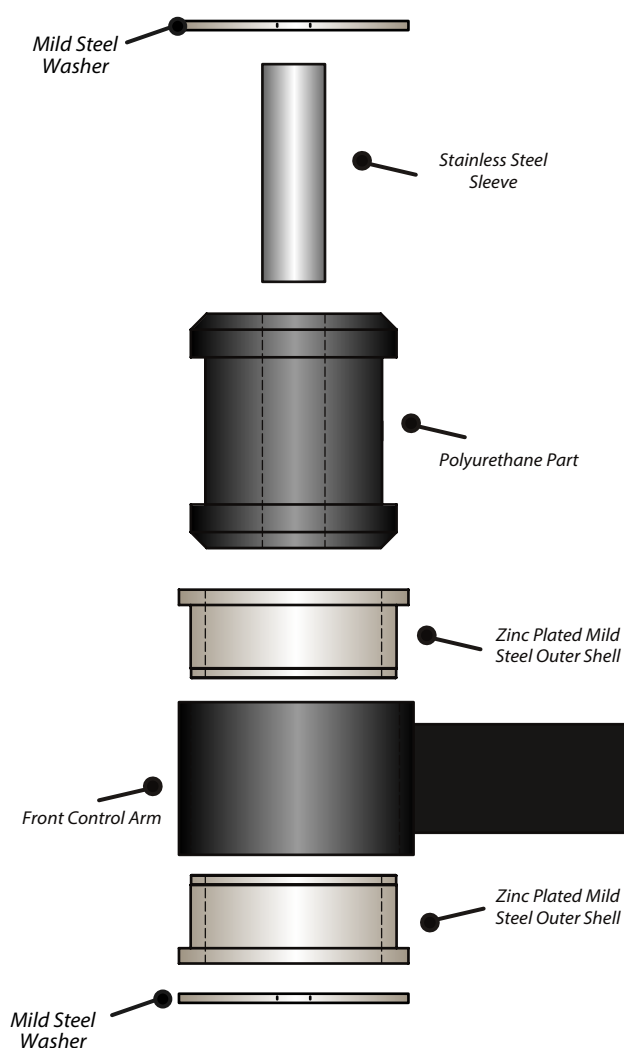

Figure 1
6. Fit the stainless-steel sleeve into the bushes and add the washers as shown in Fig 1.